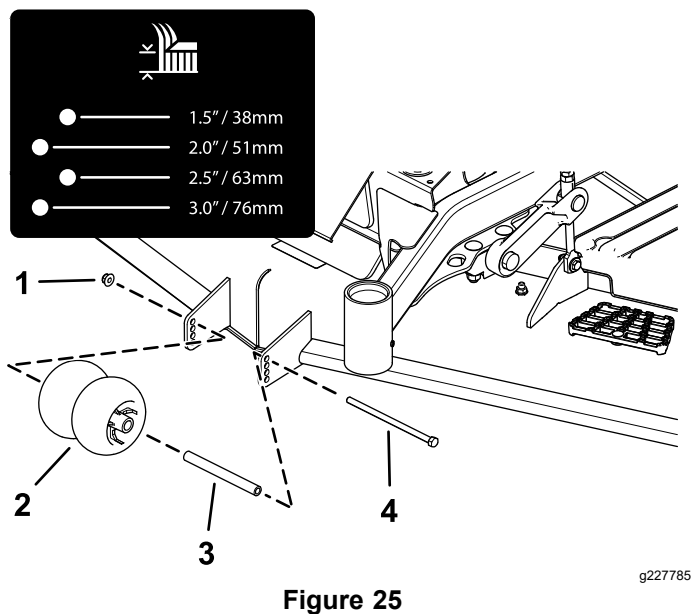
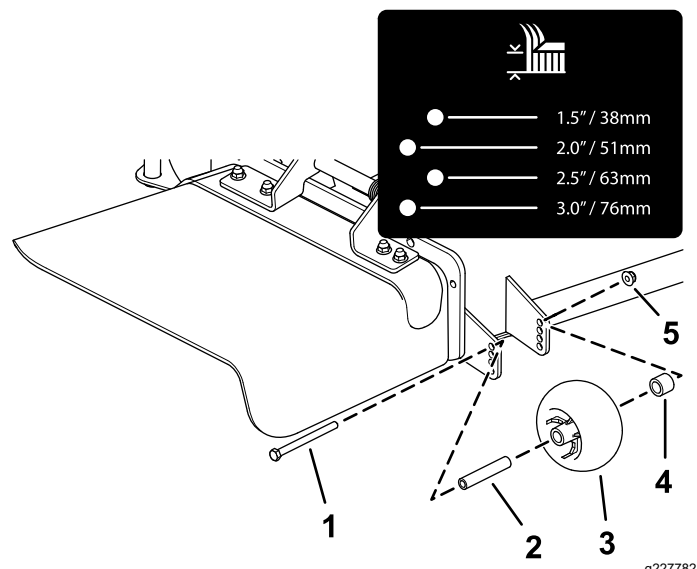
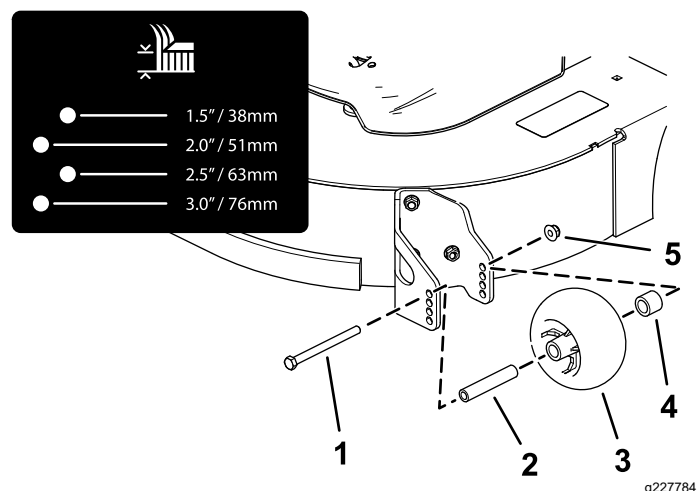
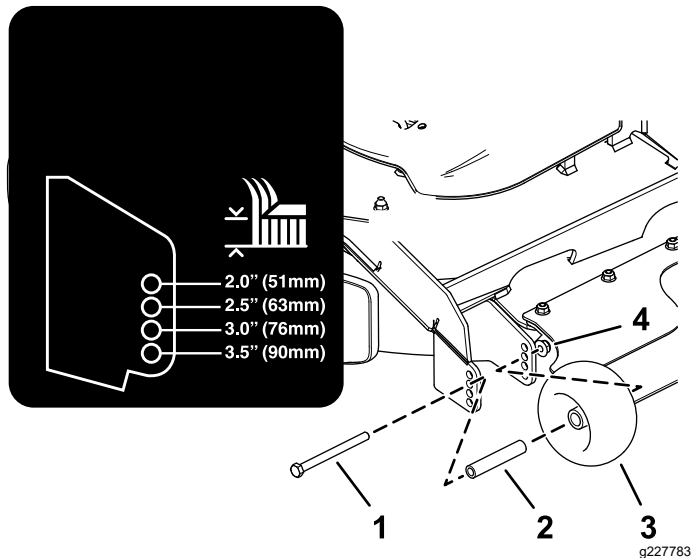

Figure 25
Figure 26
Figure 27
Figure 28
4. Adjust the anti-scalp rollers as shown in Figure 25, Figure 26, Figure 27, and Figure 28.